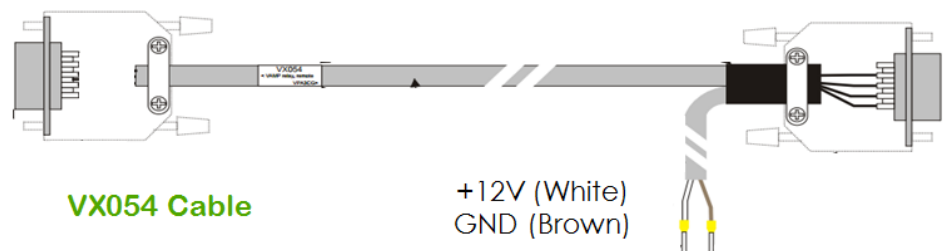

Figure 6. Connecting external adapter (VPA 3 CG) to a 50-Series Relay
* Requires external 12 Volt power supply (Figure 6)